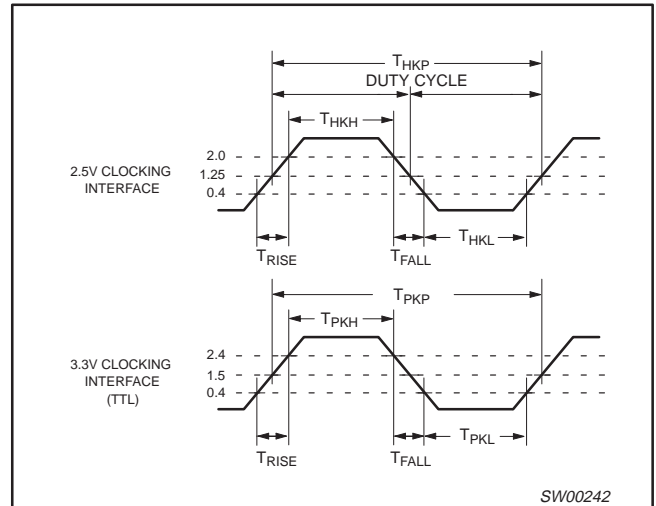

Figure 4. 2.5V/3.3V clock waveforms
- T_{HKH} is measured at 2.0V for 2.5V outputs, 2.4V for 3.3V outputs as shown in Figure 4.
- T_{HKL} is measured at 0.4V for all outputs as shown in Figure 4.